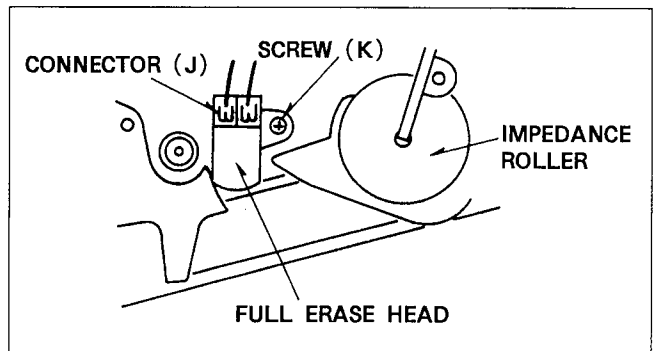

Figure M13
1. Disconnect a connector (J) and unscrew a screw (E) and remove the Full Erase Head (Figure M13).